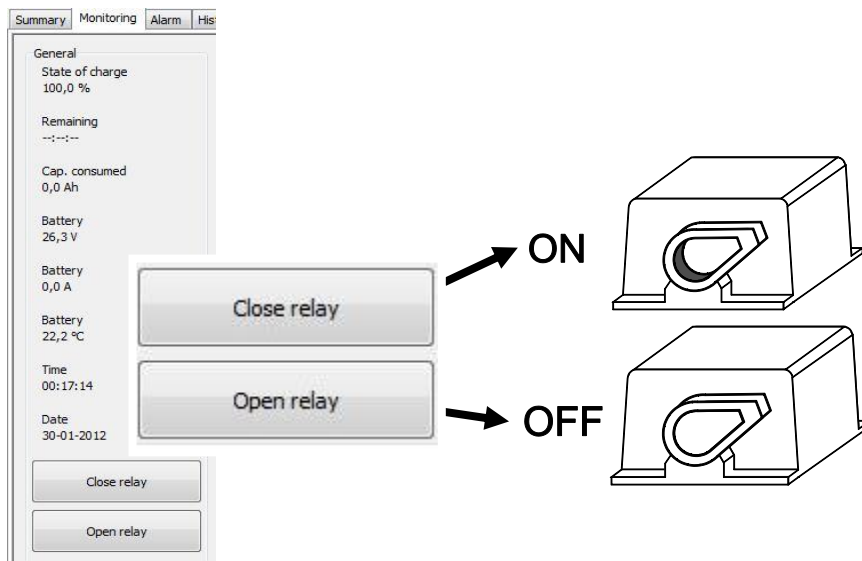

Figure 3-8: Buttons for closing and opening the relay
- 2 Enter on the MasterBus control panel the MasterBus MLI Ultra monitoring page. Operate the Close Relay button at the bottom of this page. If the relay is closed (On), the knob position must be shifted inwards. See figure 3-8.